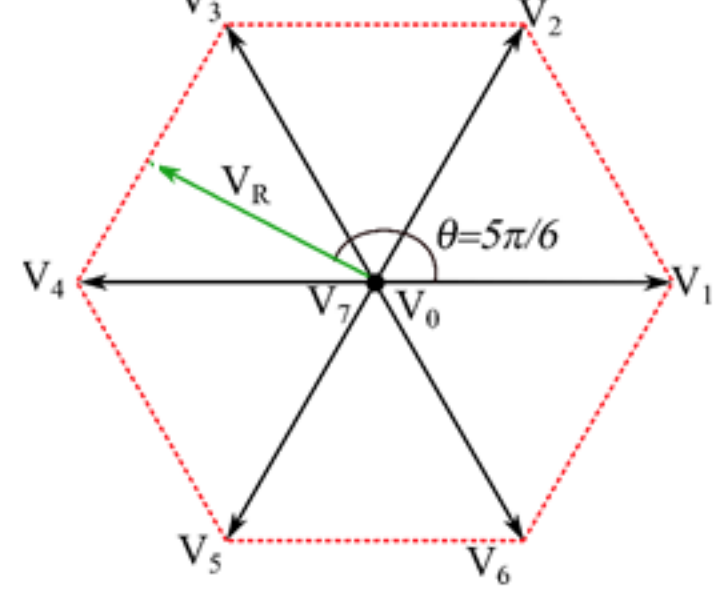

Figure 2
6) To realize the reference vector (V_R) shown in Fig. 2. The correct switching sequence for realizing space vector PWM is, **1 point**